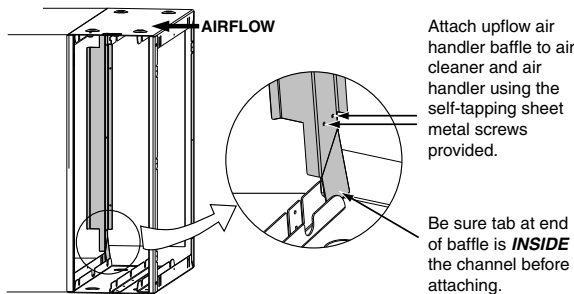

Figure 17 Upflow Air Handler Baffle Installation Details
- Position the baffle onto the air cleaner as indicated in Figure 17. The baffle should be positioned on the leaving air side of the air cleaner cabinet opposite the power door. Ensure that the bracket is located correctly inside the air cleaner enclosure so that the baffle or screws do not interfere with the filter cell installation. (See Figure 17 inset.)